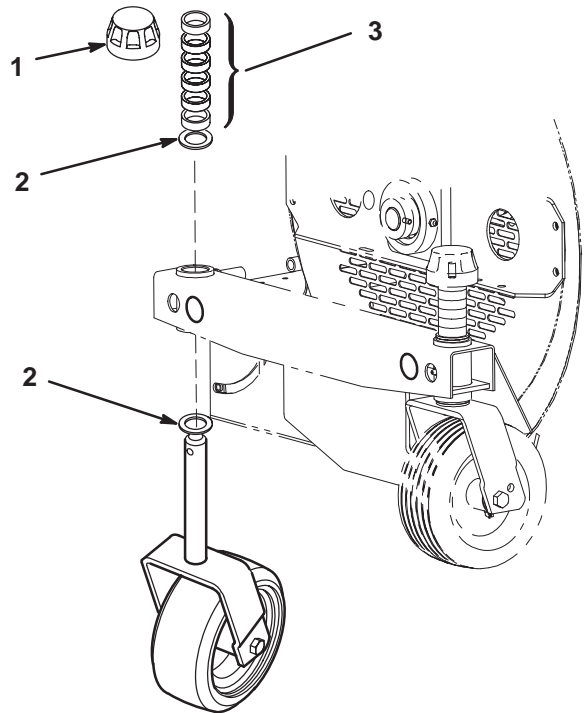

Figure 1
1. Remove the tensioning caps from the spindle shafts and slide off the castor wheel, spacers, and thrust washers (Fig. 1).
2. Slide the spacers onto the castor spindle to get the desired height. Slide a thrust washer onto the spindle and push the castor spindle through the frame. Install another thrust washer and the remaining spacers onto the spindle and install the tensioning cap to secure the assembly (Fig. 1).